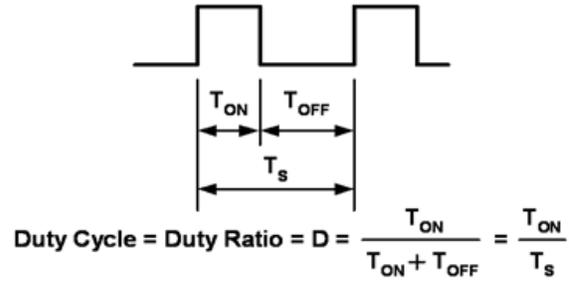

Figure 13.
LEDs on and off for a portion of a single cycle. This on/off cycle is called the Duty cycle (D) and is expressed by the amount of time the LEDs are on (Ton) divided by the total time of an on/off cycle (Ts) (Figure 13).